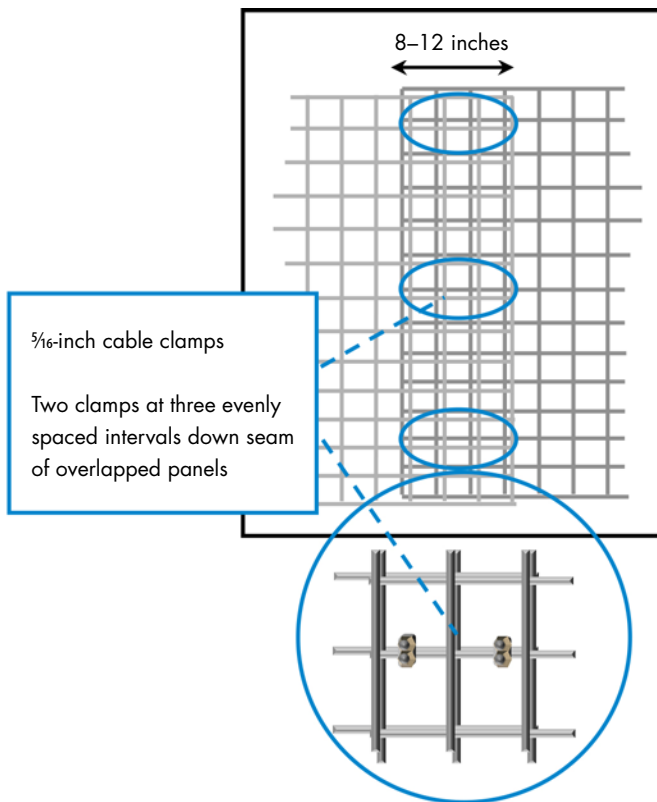

Figure 2. Connect the panels to one another.
3. Working from the free ends of the panels on each side of the trap door, connect the remaining panels to one another by overlapping the adjoining ends 8–12 inches and securing the sections together using 5/8-inch cable clamps or heavy-gauge wire (**Figure 2**). Complete the circle and “fine tune” the corral’s shape by pulling or pushing the joined panels in or out as necessary.